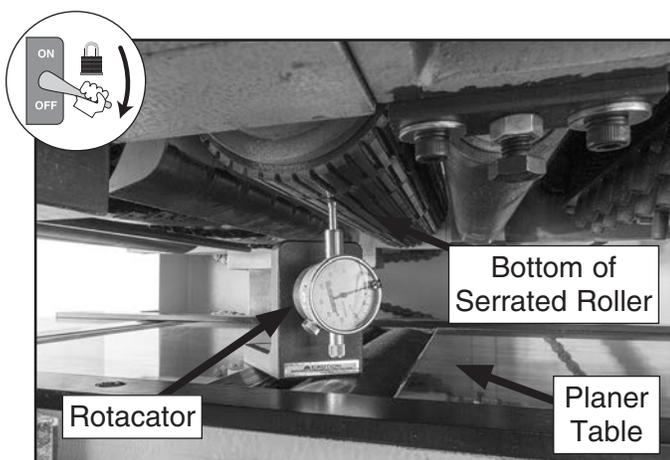

Figure 114. Rotacator placed underneath leftside of serrated roller
3. Place Rotacator or dial indicator on planer table underneath left-side of serrated roller (see **Figure 114**).